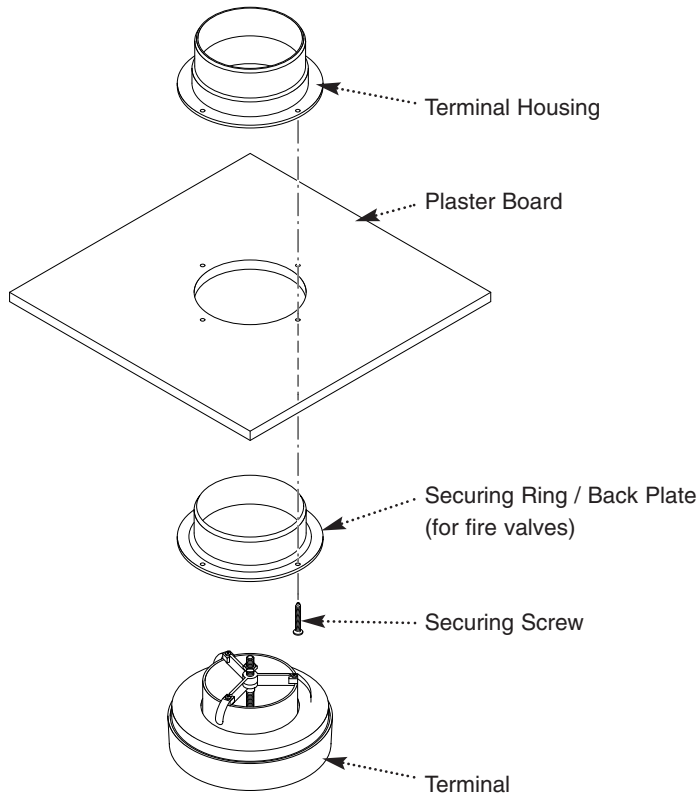

Fig. 12
4. For two storey new build properties it is recommended that the ground floor terminal housings are secured in position in advance of the plasterboard panels being fixed, by obtaining a sheet of plasterboard of the type and thickness to be used. Cut a square of the sheet to just span two joists in the corner where the terminal is to be fitted. Remember that the edge of the sheet on the inner joist should only rest on half of the joist thickness. This allows a fixing surface for the next sheet of plasterboard to be secured to when it is fitted. Tack up the plasterboard in position on the ceiling and connect up and seal the duct and fittings (Fig 12).